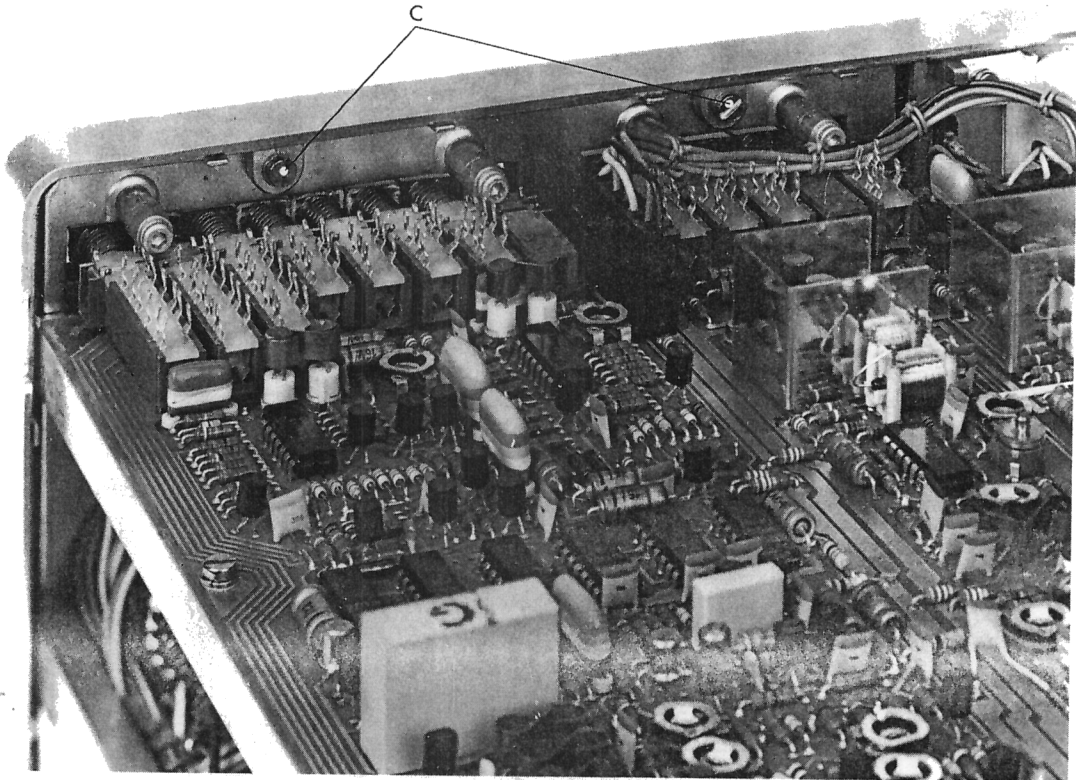

Fig. 3.24. Removing the front assembly (screws C).
- Remove the two screws C (Fig. 3.24).